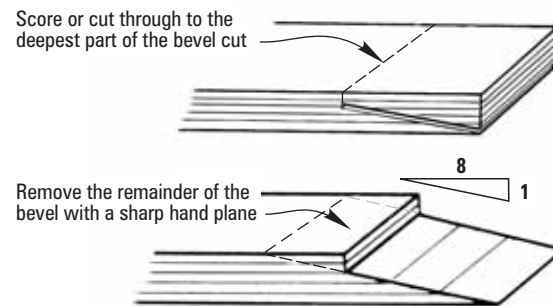

Figure 5
When cutting plywood thicker than $\frac{1}{4}$ ", the blade won't reach all the way through the wood. The scarf must be completed with a hand plane. Figure 5 illustrates the procedure for finishing a scarf on edge of a partially cut, thicker panel.
1. To complete the cut, flip the plywood over on the bench. Score the plywood with a straight edge and knife above deepest part of the cut. Break away the scrap. If the plywood is very thick, you may have to make a shallow saw cut instead (See Figure 5).
2. Locate and mark the back edge of the 8-to-1 bevel (where the blade would have come out if it were a larger diameter). Multiply the plywood thickness by 8 (if the blade angle was set at 0°). Then measure back from the edge that distance. For example, on $\frac{3}{8}$ " plywood the back edge of the cut is 3" from the panel edge ($8 \times \frac{3}{8} = 3$ "). On $\frac{1}{2}$ " ply, the back edge of the cut is 4" from the panel edge (See Figure 5).